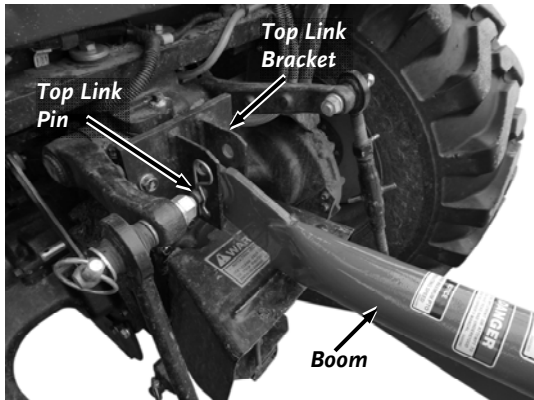

Figure 7
3. Remove the Top Link from the Top Link Bracket on your tractor. Position the End of the Boom into the Top Link Bracket and secure it using your Tractors Top Link Pin (**Figure 7**).